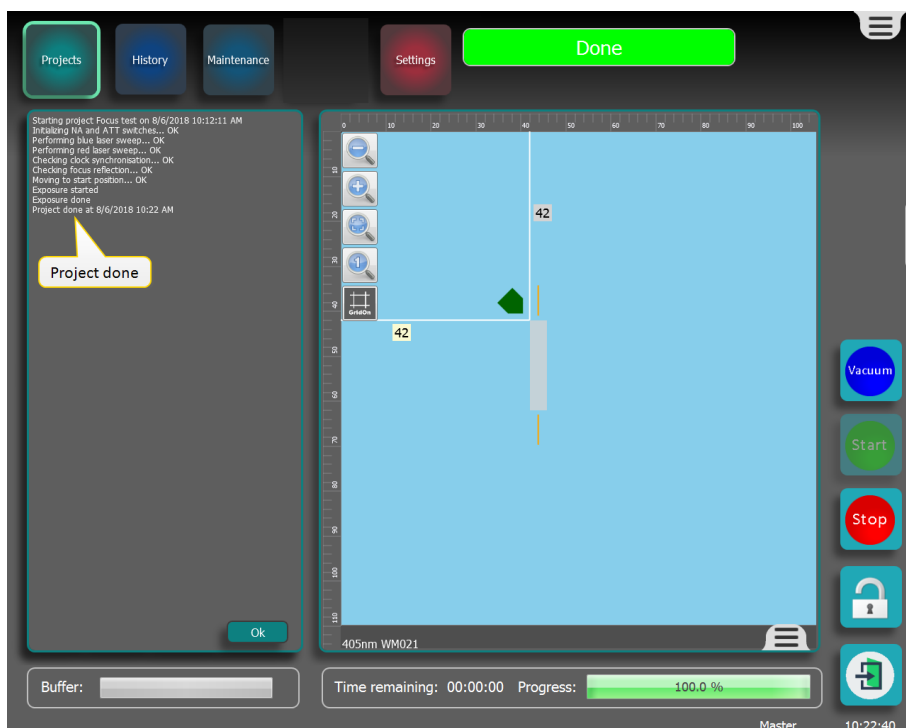

Figure 3-112 Project done
4. Check that the project is done, see Figure 3-112.